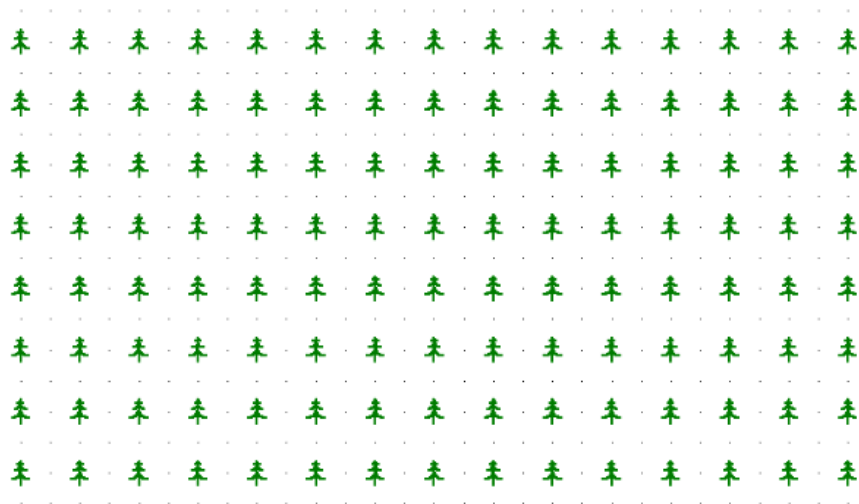

Figure 4-87
2. Place a symbol on a grid point at the top left of the screen. Select *Modify/Copy/Array* and, moving the cursor over the symbol just placed, click the mouse. In the dialog enter **14** as the “Number of Copies” and **14** as the “Number of Rows” and click [OK]. Click on the grid point where the tree is placed as the reference point. Drag the ghosted symbols to the right of the original symbol and left click. Then drag the cursor down at right angles to the previous ghosted row of trees and left click. You now have a block of trees 14 x 15. See Figure 4-87.